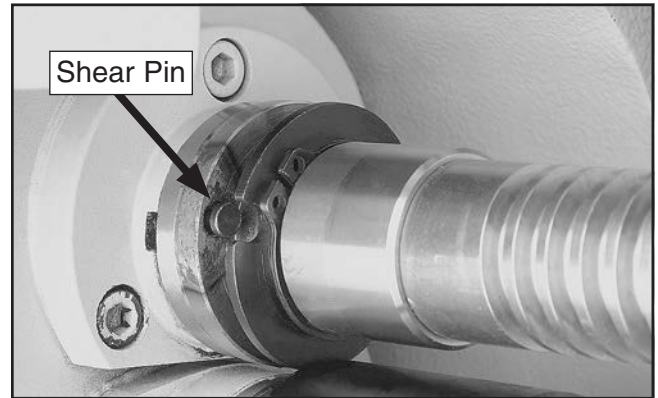

Figure 132. New shear pin installed in bore.
- Insert the new shear pin into the bore, as shown in **Figure 132**.